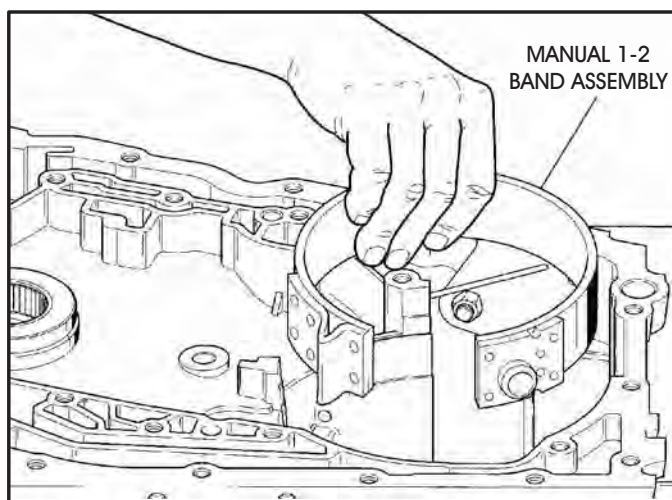

Figure 173
22. Install the manual 1-2 band assembly into case, as shown in Figure 173, ensuring engagement onto the band anchor in case.